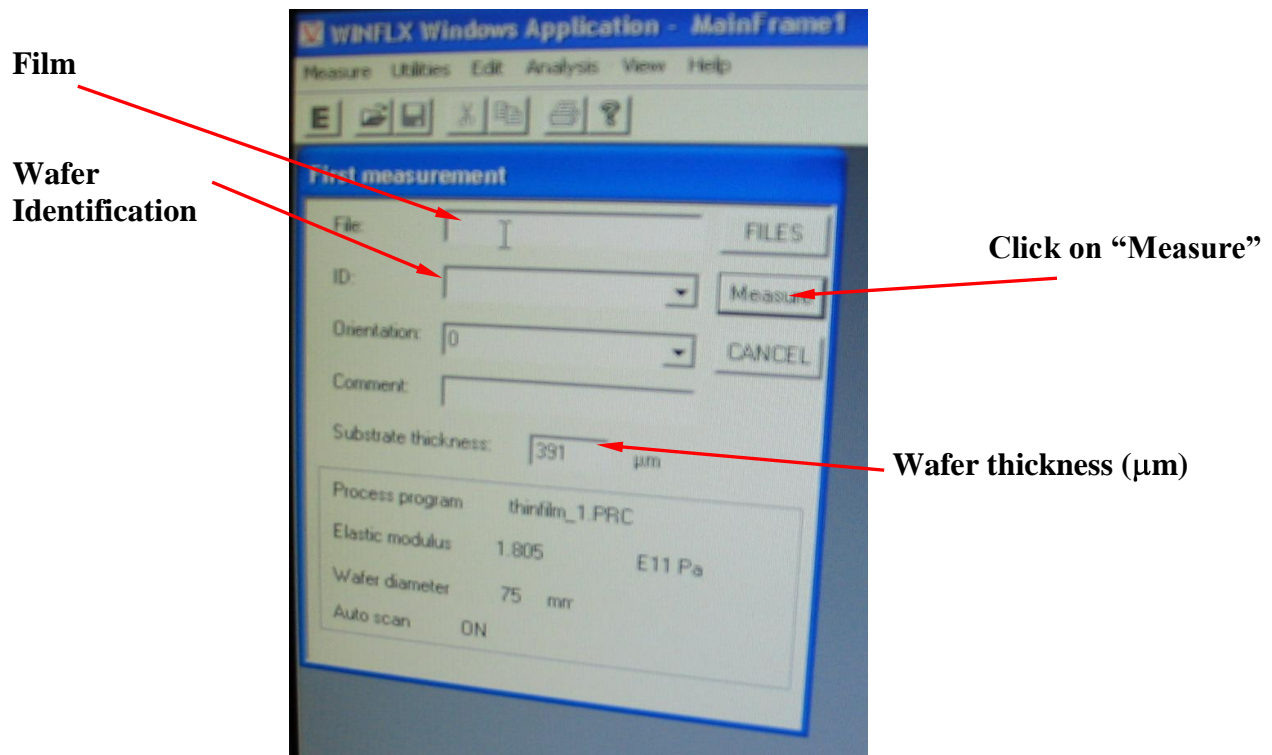

Figure 9: First Measurement
5. Select “Measure” from the pull down menu, click on “First”. The window in **Figure 9** will appear. This will be the measurement prior to film deposition.
Figure 9: 3-D deflection graph of a wafer. For this graph, 30° increments were used to measure the wafer. The different levels of stress are color coded across the wafer.